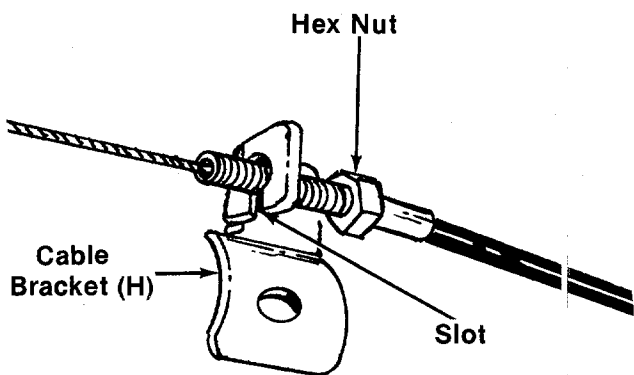

FIGURE 3.
4. The clutch cable is attached to the drive cover, and has a spring on the loose end. Remove one hex nut from the end of the cable. Hold the cable bracket (H) as shown in figure 3. Slip the wire through the slot on cable bracket. Push end of cable up through the hole in the bracket. See figure 3. Start hex nut back on the end of the clutch cable. Do not tighten at this time.